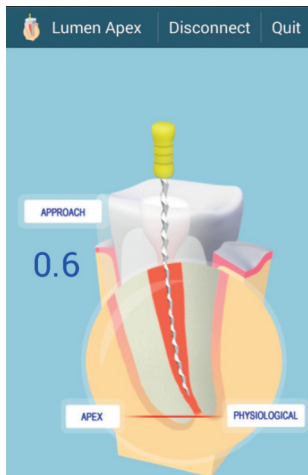

Fig. 6
7. Slowly insert the endodontic file (9) into the root canal. When the end of the file is approximately 2,0 mm or less from the apical constriction, you will see numbers appearing on the root canal model (Fig. 6). You will also hear a slow beeping signal.